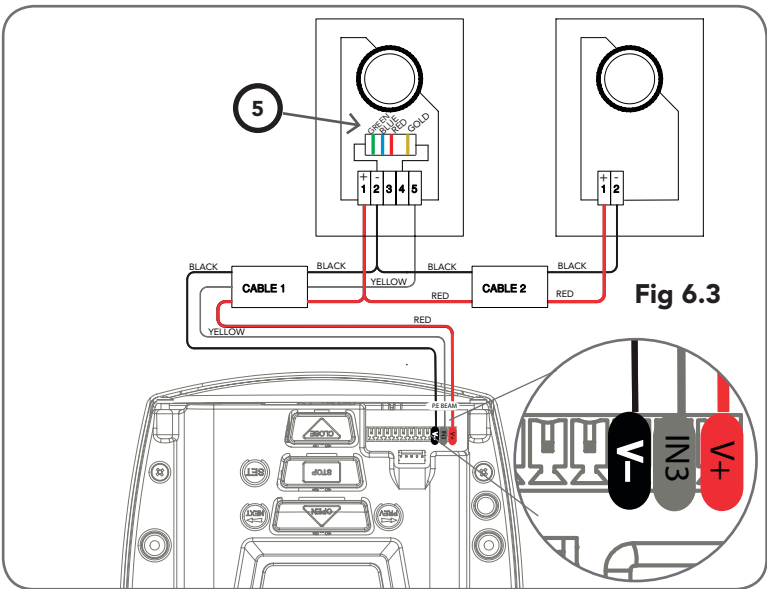

Fig 6.3
- b. For three wire beams connect the Resistor 5k6 ohms (Green Blue Red Gold) (5) to number 2 (two) and 4 (four) terminal on the Safety-2 receiver (Fig. 6.3). Make sure to align the beams correctly. Follow the manual supplied with the Safety Beams.